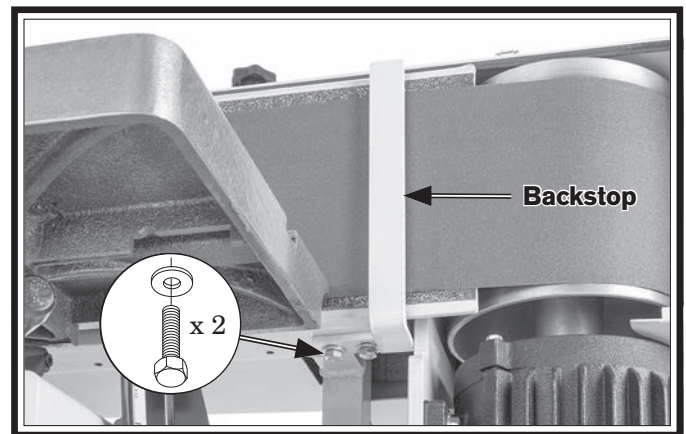

Figure 43. Location of backstop hex bolts.
9. Tighten (2) hex bolts shown in **Figure 43** to secure backstop.